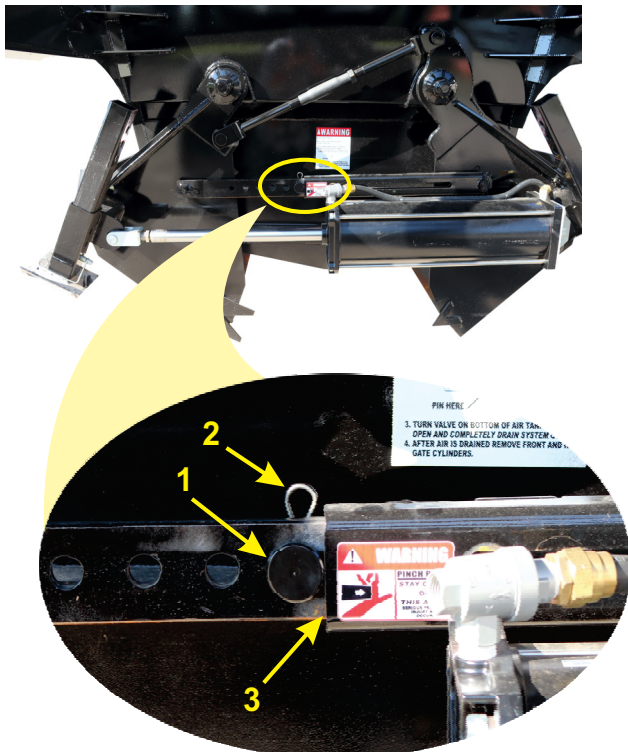

Figure 2-1 – Dump Gates Secured in Open Position
- **POSITION THE OPENING ADJUSTMENT PIN (1, FIGURE 2-1) INTO THE FIRST HOLE IN THE DUMP GATE SLIDING WIDTH ADJUSTMENT BAR THAT IS OUTSIDE OF THE ADJUSTMENT BRACKET (3, **Figure 2-1**). SECURE THE PIN WITH THE QUICK CLIP (2, **Figure 2-1**). DO THIS PROCEDURE AT BOTH ENDS OF THE DUMP GATE ASSEMBLY.**